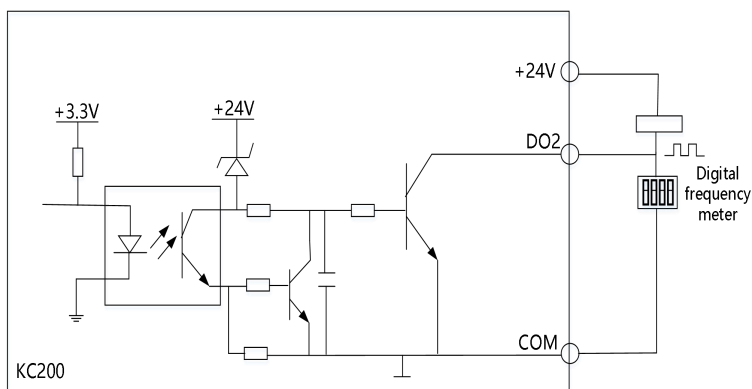

Figure 3-14 Output terminal DO2 connection mode 1
3. DO2 is used as digital pulse frequency output and can use the 24V power supply inside the AC drive. For the wiring method, please see Figure 3-14.